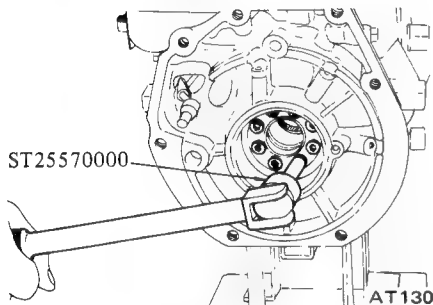

Fig. AT-64 Removing hex-head slotted bolt
18. Reaching through back side of transmission case, remove hex-head slotted bolts as shown in Figure AT-64. To do this, use Hex-head Extension ST25570000. One-way clutch inner race, thrust washer, piston return spring and thrust spring ring can now be removed.